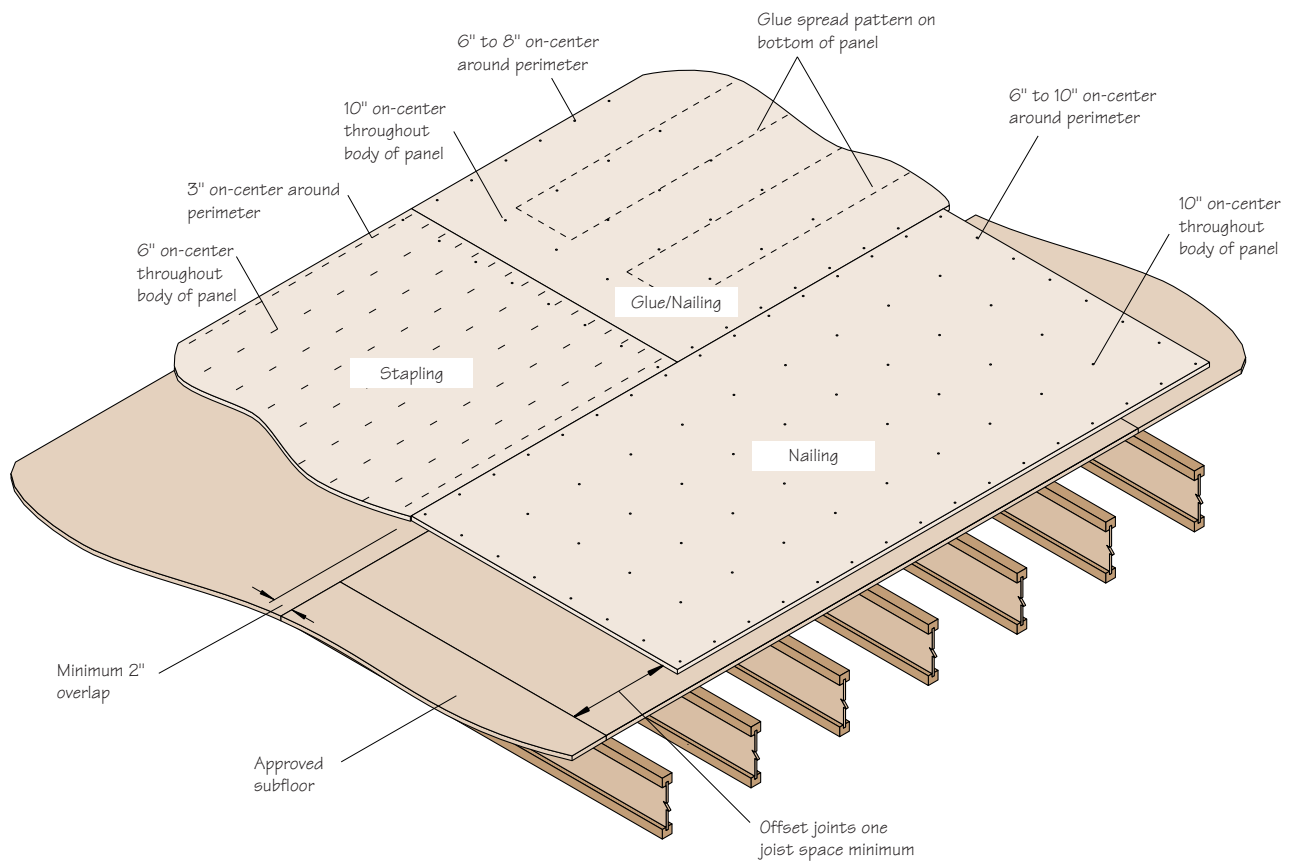

Figure 15
- Offset the underlayment joints from the subfloor joints (Figure 15).
- Properly attach the subfloor to the underlayment by nailing, stapling or glue/nailing (Figure 15).